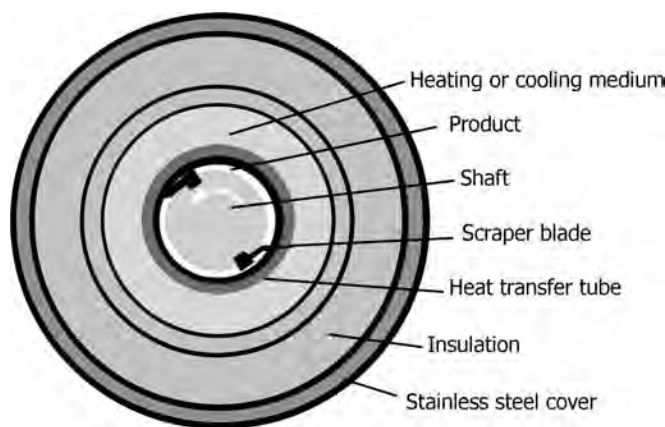

FIGURE 13.18 Scraped surface heat exchanger.
- Figure 13.18 illustrates a typical scraped surface heat exchanger.